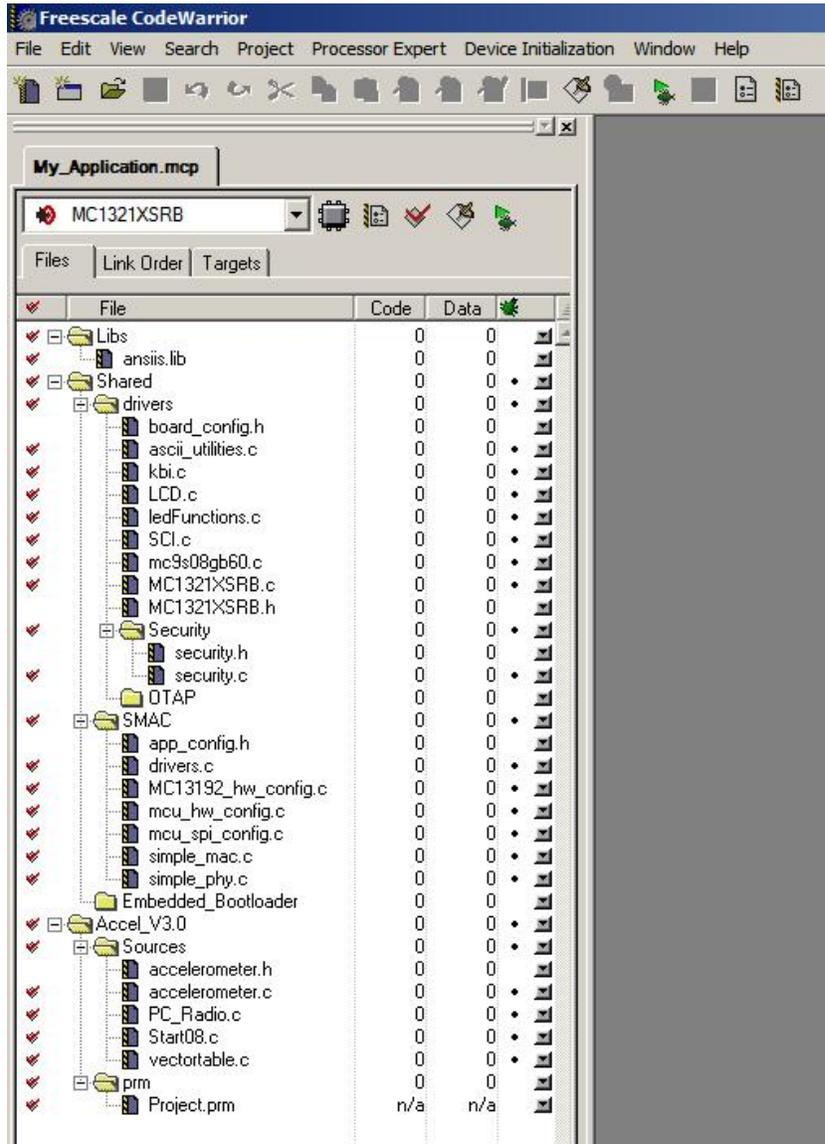

Figure 10. SMAC Codebase 1.0.4 Accelerometer Project to CodeWarrior
3. Name the new project My_Application in the file name space and click on the Save button. The CodeWarrior project must look like the project as shown in Figure 10.